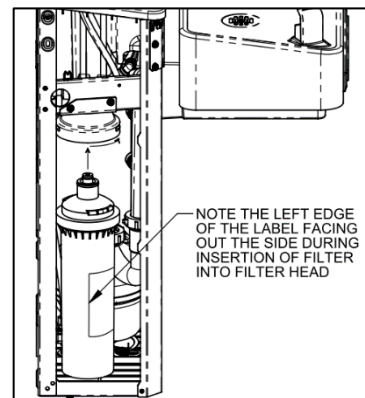

Figure 5: Filter Replacement
1. Remove the (4) screws holding the skirt to the bottom of the frame. Then remove the skirt by sliding the skirt away from the cooler.
5. Install the new filter by pushing up and turning counterclockwise (as viewed from above). Note the label orientation in Figure 5.